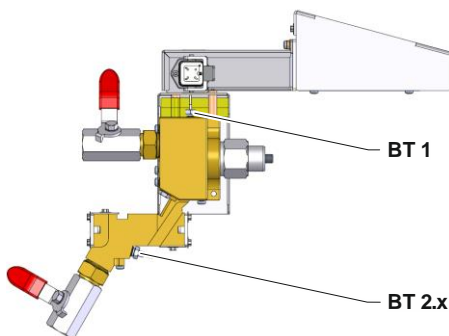

Fig. 5: Flow-5 side view from the right
- Disassemble temperature sensor (BT 1, BT 2.x) (→ Fig. 5).
- Transfer label of temperature sensor to new temperature sensor (BT 1, BT 2.x) and install(→ Fig. 5).